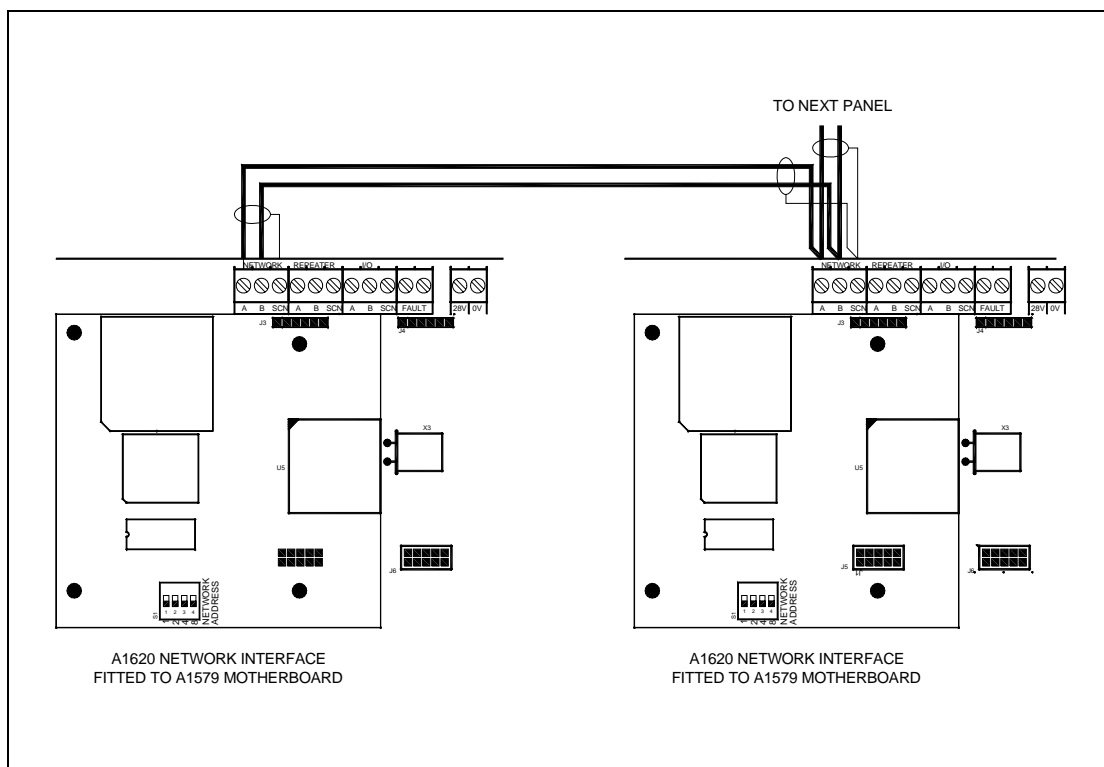

Figure 5 – Network connection diagram
2. Connect the network RS485 wiring as shown in Figure 5. A maximum of 15 active panels can be connected together in this way. Any number of panels can be added as passive repeaters provided the total number of panels does not exceed 32.